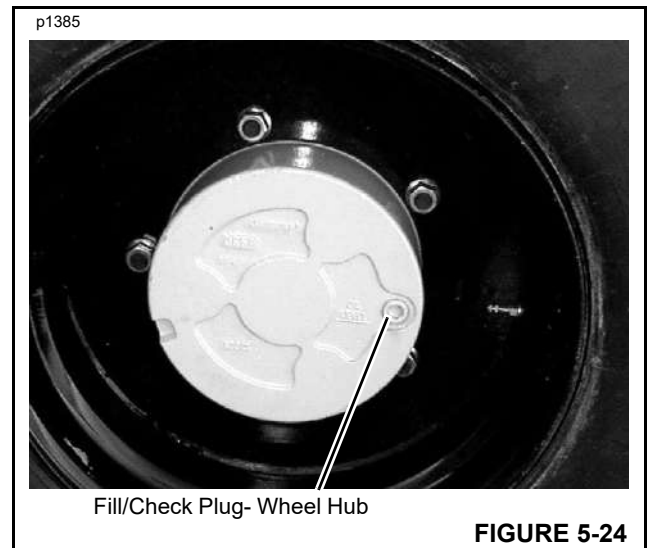

**FIGURE 5-23**
1. Clean around the axle housing fill/check plug (Figure 5-23) and remove the plug.